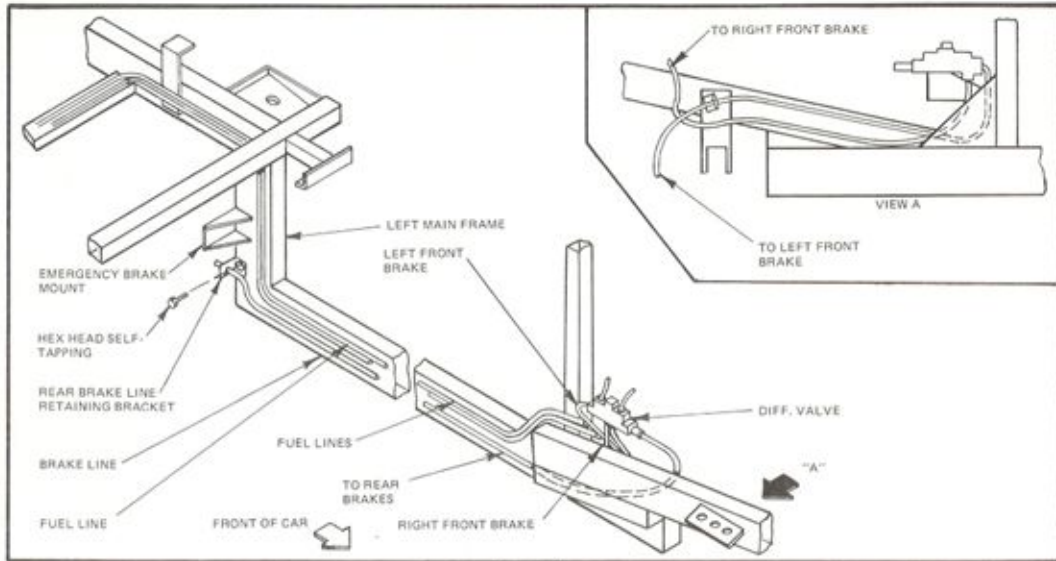

Figure 18
- Attach rear brake line retaining bracket, removed from Chevette, to frame directly under the emergency brake mount. (Figure 18) Drill 1/4" hole and secure with 5/16 x 1" self-tapping bolt. Termination of lines should coincide with diagrams.
- Route right front brake line over frame and secure to back of cross member. Attach front brake hose mounts to frame just behind cross member. Drill 1/4" holes and secure with 5/16 x 1" self-tapping bolts. (Figure 18)